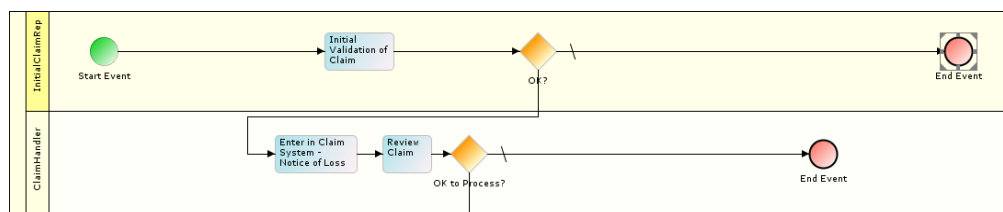

Figure 31: Repositioning Activity Elements and Resizing Swim Lanes
- Click the **Activity** element that you want to reposition, in the swim lane. Use the desired arrow key to move the activity element in the preferred direction. If you move it upwards or towards the left, then it will not affect the size of the swim lane. However, if you move it towards the right or downwards, then it will automatically resize the swim lane (see Figure 31).